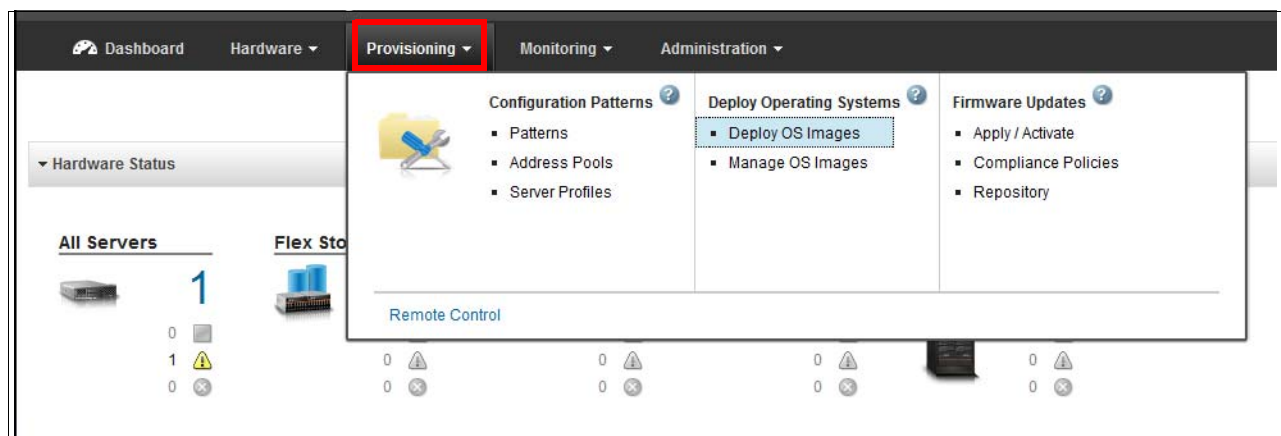

Figure 6-20 XClarity Administrator deploy images
2. From the Lenovo XClarity Administrator menu bar, click **Provisioning** → **Deploy OS images** as shown in Figure 6-20 on page 196 to display the Deploy Operating System: Deploy OS images page.